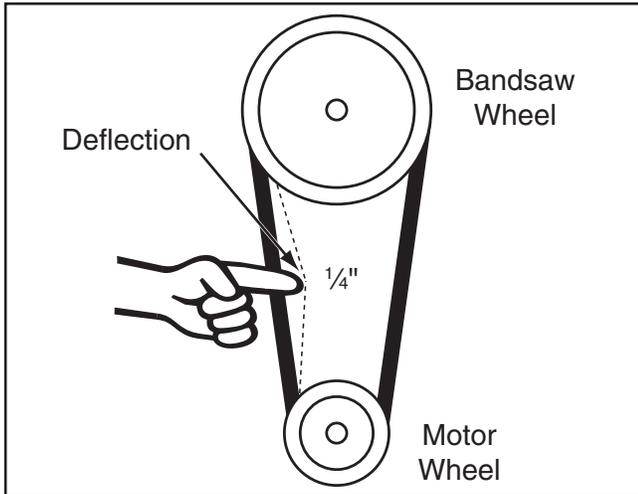

Figure 102. V-belt deflection.
5. Check V-belt tension by applying moderate pressure between pulleys (see **Figure 102**).